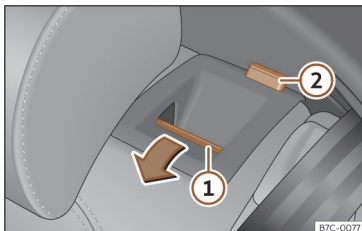

Fig. 110 Rear seat: folding the backrest.
- Press the unlock button >>> **Fig. 110** ① forwards and at the same time fold the backrest down. The rear seat backrest is not engaged when the red marking of the button ② is visible.
The rear seat backrest is not engaged when the red marking of the button»» **Fig. 110** ② is visible.